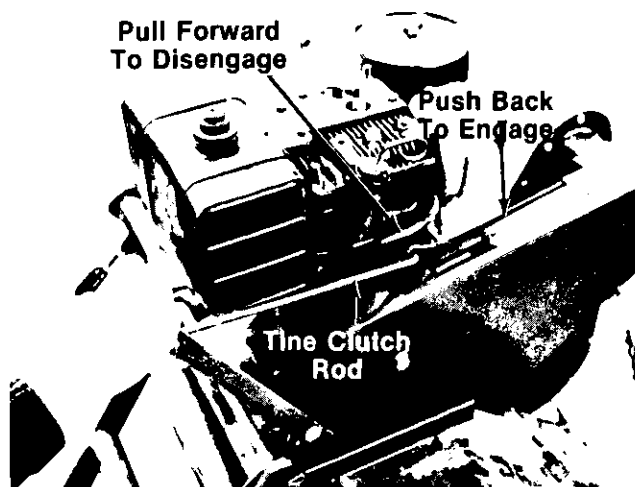

FIGURE 14.
1. Place the tine clutch rod in the **disengaged** position. See figure 14.